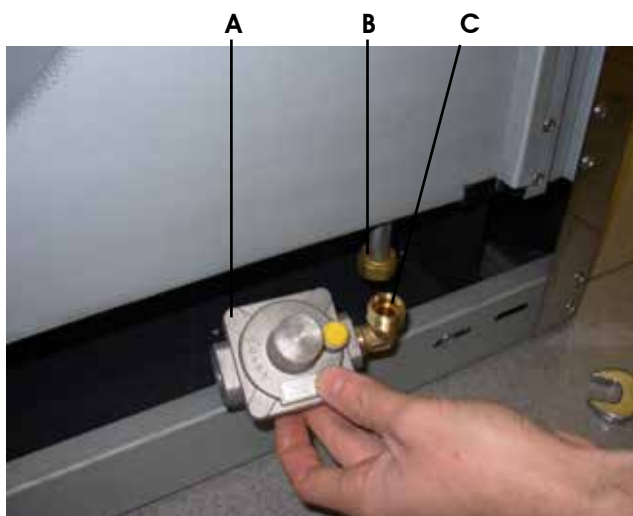
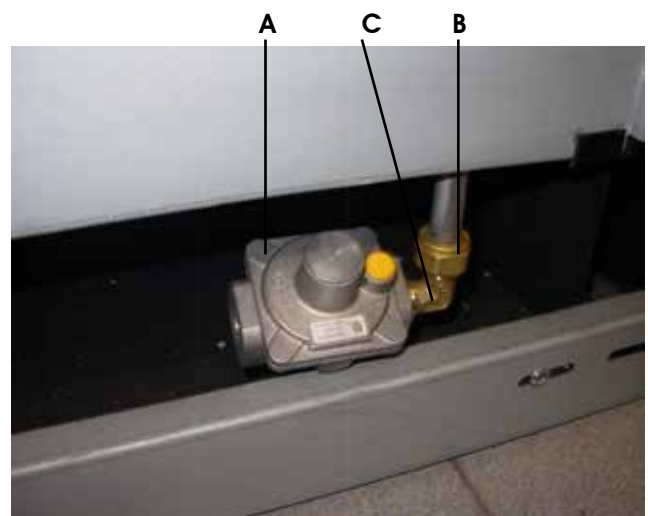

Fig. 2a
Fig. 2b
- As show in **Figure 2a**, unscrew B part from C part. Screw C part into A part (**Fig. 2a**). Please use a proper gasket, for this connection. As show in **Figure 2b**, screw A+C part into part B.